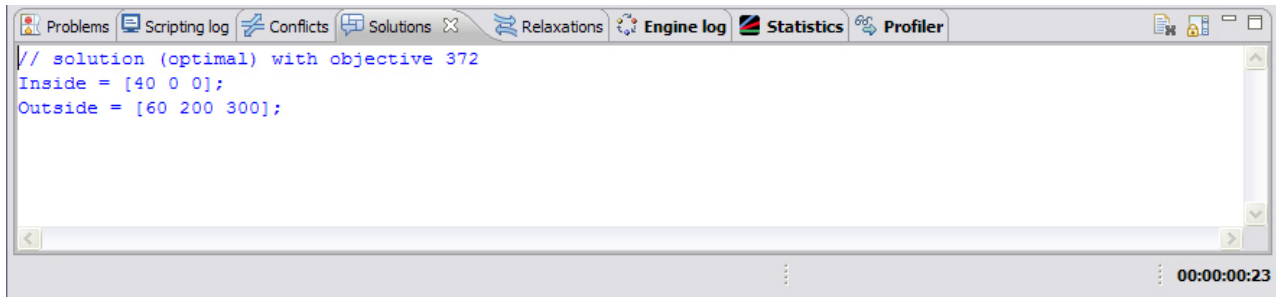

Figure 9. Solution for Configuration 1
- The **Solutions** tab displays the same solution (see Figure 9 on page 61).